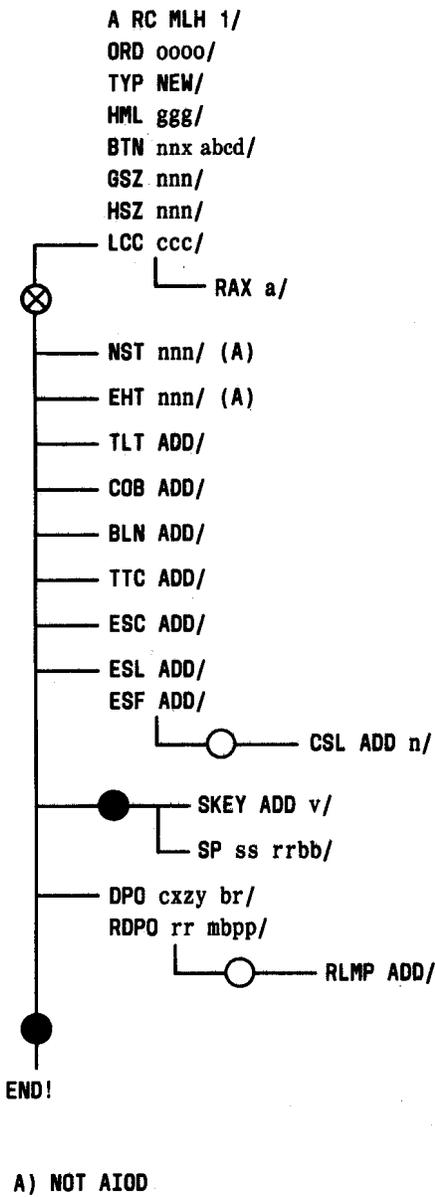

Fig. 14—RSS Multiline Hunting Group Messages—New Assignments Flowcharts
5.09 Figure 14 provides the flow diagram indicating the proper keyword format required in the preparation of service order multiline hunting group messages for new assignments in an RSS.